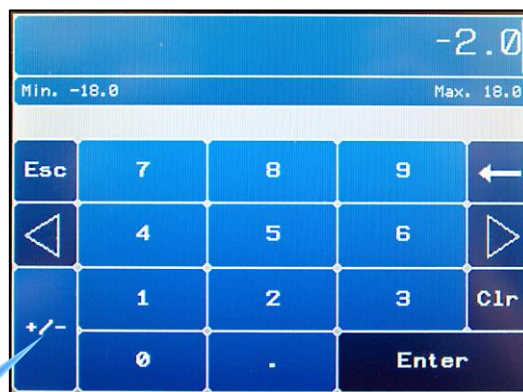

Figure 79
10. Using the on-screen numeric keypad, Fig. 79, type in the offset number. If the offset is a minus (-) number, press the +/- button so that the (-) sign appears on the display. However, if the offset is a positive number, no symbol will appear before the offset number. Press the **Enter** button.
To adjust, press the **High (Fast) Cook Temperature Offset** button, on the Advanced Settings Screen, Fig. 79.